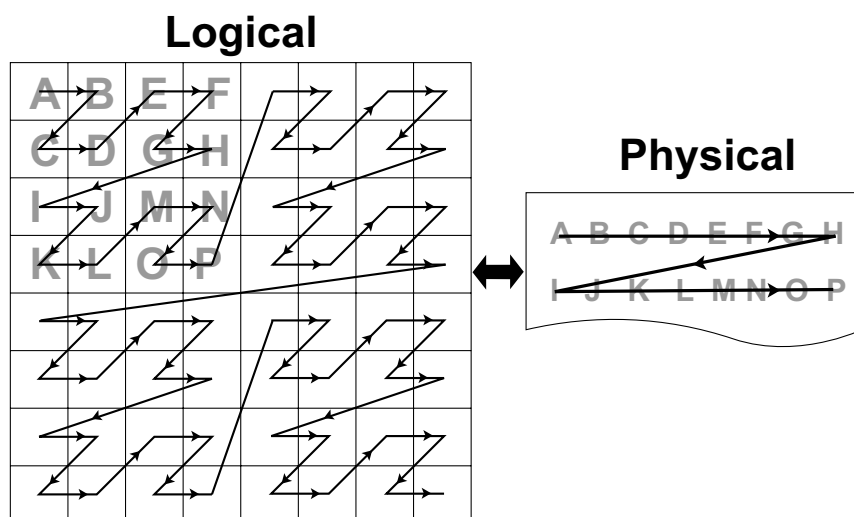

Figure 1.11 One Example of a Tiled Layout Format
- Tiled – A tiled layout format has a pre-defined sequence of element blocks arranged in sequential memory addresses (see Figure 1.11). Translating from user address space to the tiled arrangement is transparent to the user. Tiled memory layouts provide an optimized memory access pattern to make more efficient use of the RAM attached to the stream processor. This contributes to lower latency.